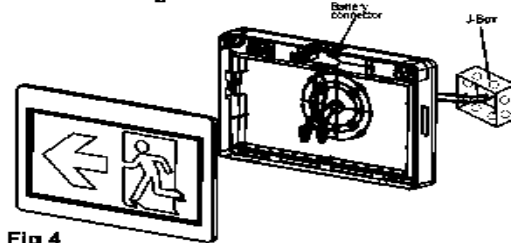

Fig 4
3. For ceiling and side mounting purpose, remove the mounting hole cover on the top or side of the unit, assemble the canopy (see Fig 4,5,6).
2. Knockout appropriate mount screw hole and cable hole, mount back plate on the wall after feed building AC supply cable into back plate(see Fig 4).
3. For ceiling and side mounting purpose, remove the mounting hole cover on the top or side of the unit (see Fig 4,5,6), assemble the canopy on the unit (see Fig 2).